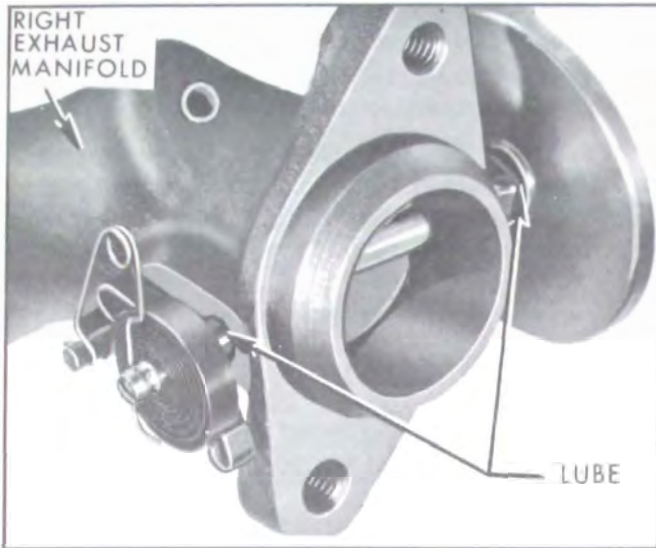

Figure 1-12—Exhaust Manifold Valve V-6 Engine
14. Exhaust Manifold Valve-V-6 Engine. Place a few drops of Buick Heat Trap Lube or equivalent on shaft at each end and rotate shaft to work in lubricant. See Figure 1-12. Buick Heat Trap Lube is available through the Buick Parts Warehouses.